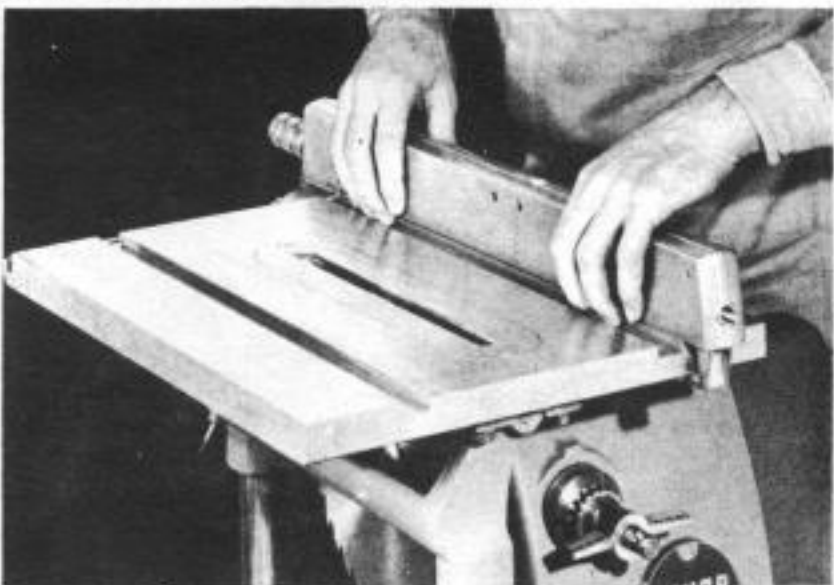

Fig. 9 Rip fence must be parallel with table slots
4.... THE RIP FENCE, WHEN LOCKED, MUST BE PARALLEL TO THE TABLE SLOTS. Check by locking the rip fence on the table, positioned so that one side of the fence is flush with one side of either table slot (Fig. 9). If the rip fence is not exactly parallel to the slot, adjustment is required.